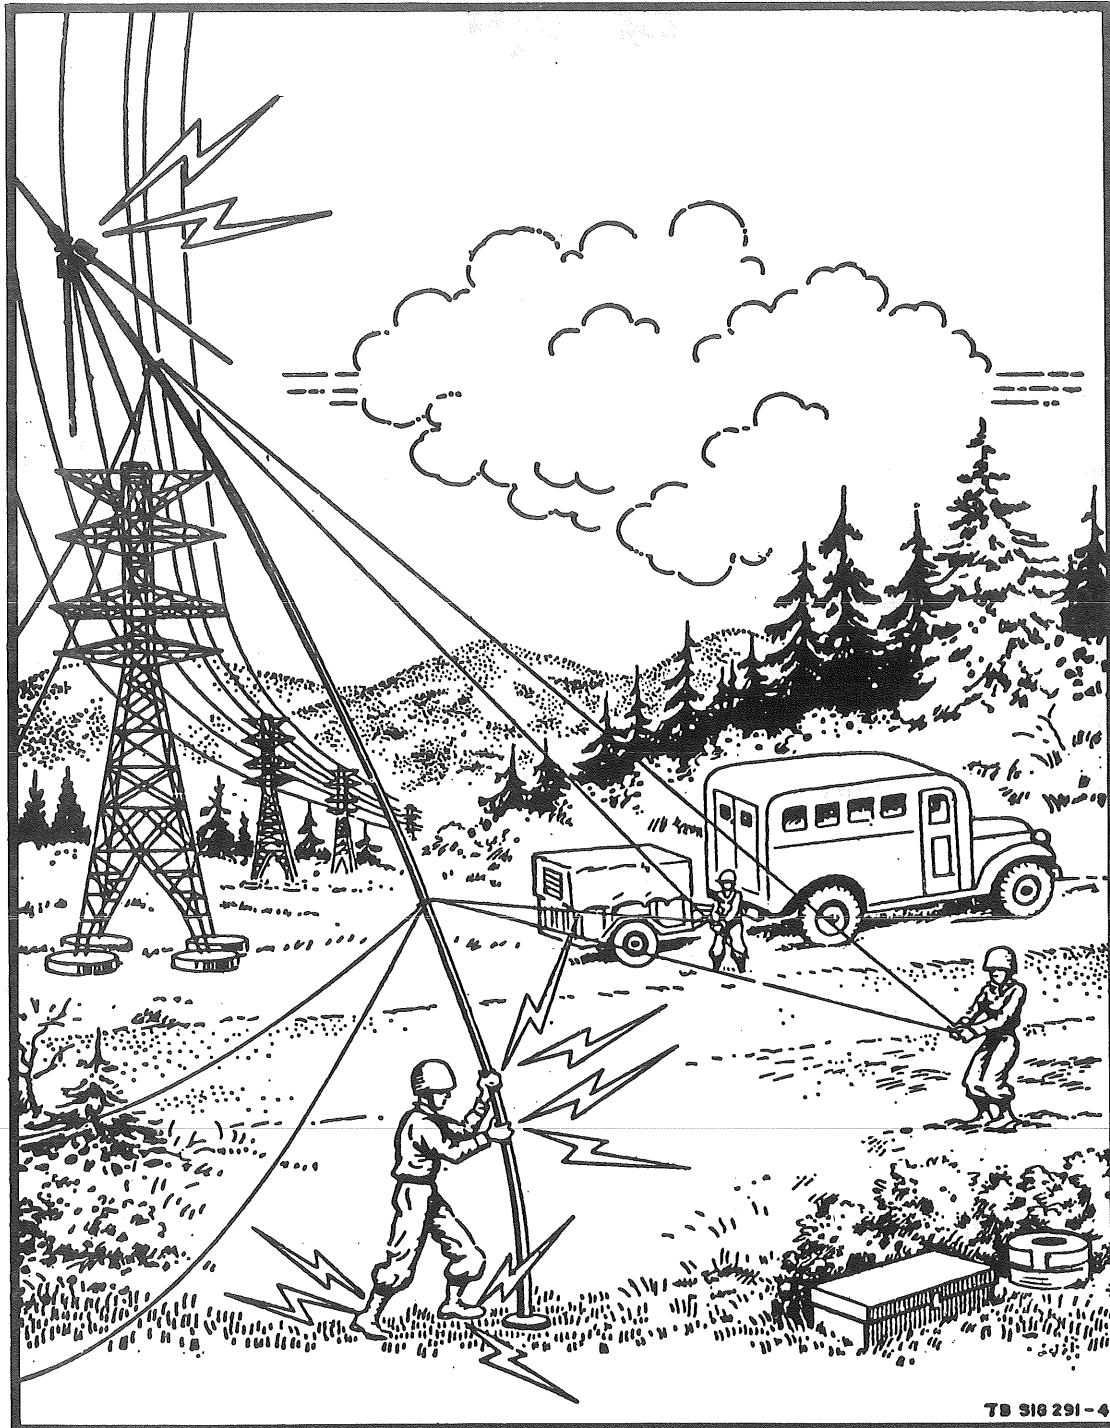

Figure 1. Antenna site with inadequate distance between power lines and antenna mast.
- a. Prior to installing or erecting any equipment, survey the area carefully for location of power lines, their height above ground level, and their proximity to the installation location (fig 1).